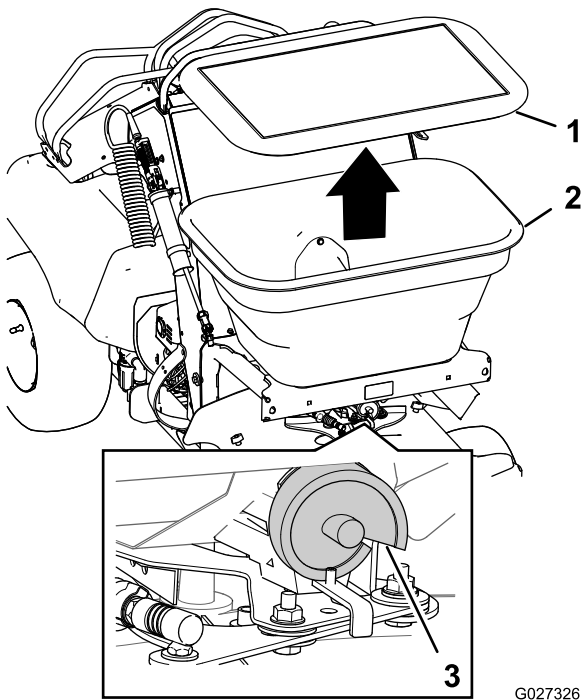

Figure 25
4. Use the Spreading Charts \(page 31\) to determine the setting for the drop-rate cam (Figure 25).
5. Remove the cover from the hopper, add the material to be spread, and install the cover onto the hopper (Figure 25).